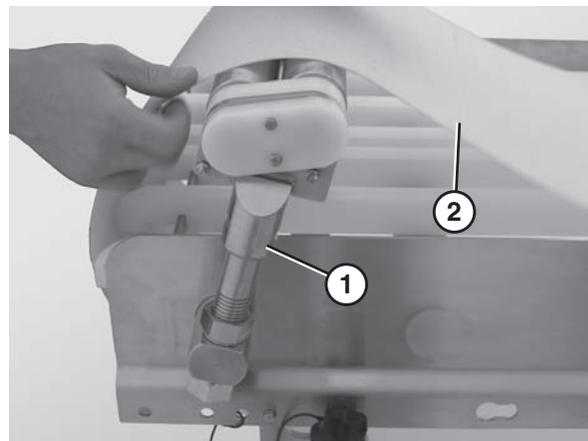

Figure 39
2. Place the tip up tail (**Figure 39, item 1**) in the up position.
3. Lift up on the belt (**Figure 39, item 2**).